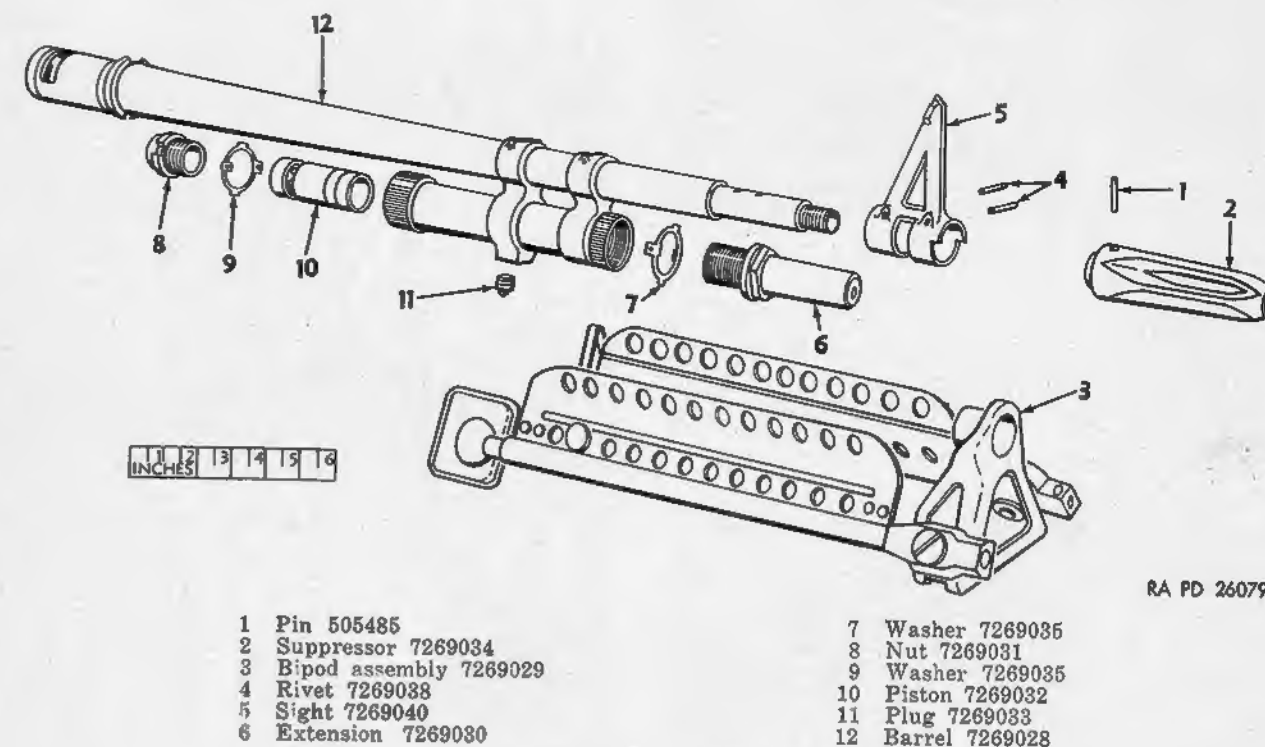

Figure 8. Barrel Group—Exploded View.
34. Disassembly (fig. 8)
(a) Inspect gas cylinder (fig. 8) for deformations and assure proper functioning of gas piston (fig. 8) within the cylinder. Inspect gas port for obstructions from carbon deposits. Ream with combination wrench 7269345 (fig. 4).
(2) *Flash suppressor.* Inspect flash suppressor (fig. 8) for cracks at front of splines. Any evidence of cracks will be cause for replacement.
(3) *Bipod assembly.* Inspect bipod assembly (fig. 8) for free movement of legs, leg extension and locking action. If otherwise unserviceable, replace assembly.
(4) *Front sight.* Damaged or deformed front sight (fig. 8) will be replaced. Replace tubular rivets.
a. Insert gas cylinder plug (fig. 8) in gas cylinder and secure using combination wrench 7269345 (fig. 4).